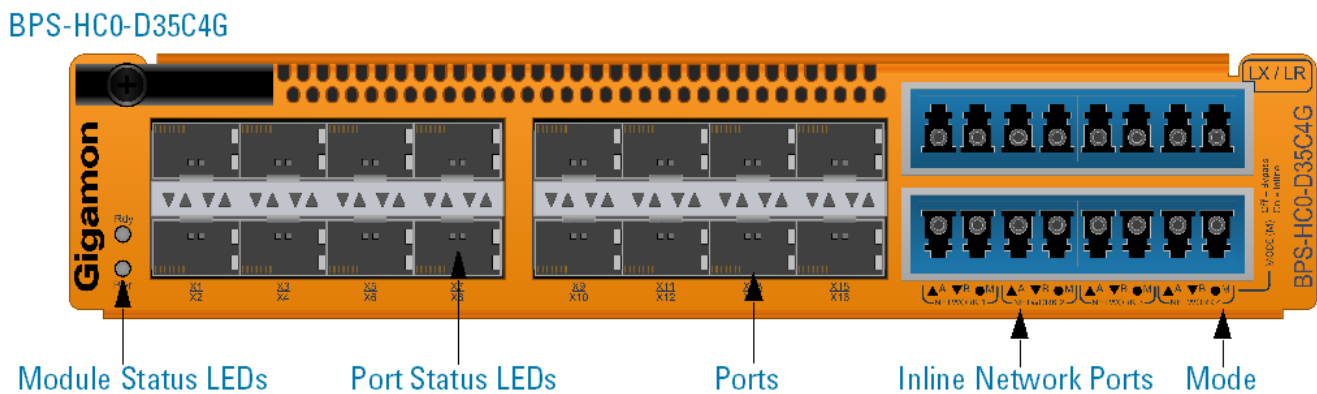

Figure 15 Bypass Combo Module BPS-HC0-D35C4G**Module Status LEDs**
- Bypass Combo Module with four LX/LR (singlemode) inline network port pairs and sixteen regular SFP+ port cages (BPS-HC0-D35C4G) (Figure 15 Bypass Combo Module BPS-HC0-D35C4G)